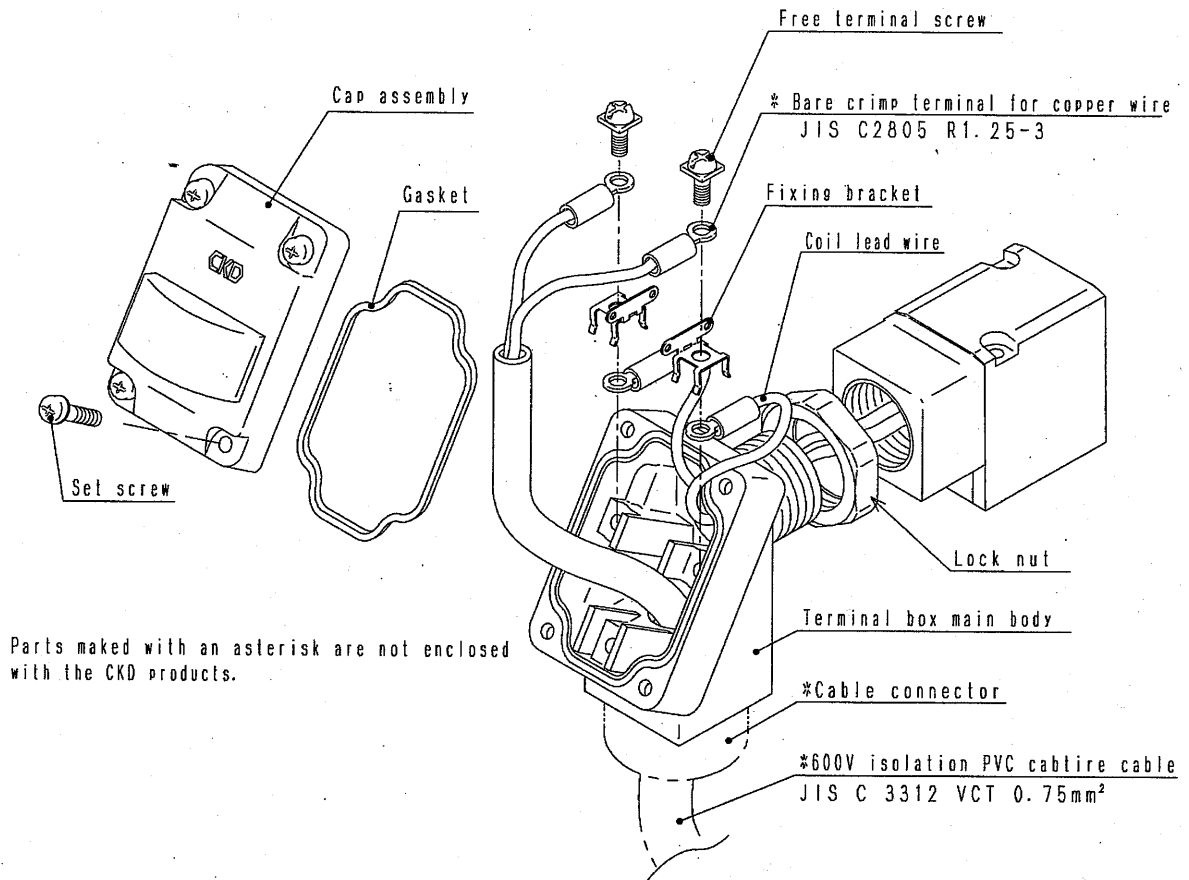

Fig. 12
- (3) Use a breaker such as a fuse or ground-fault circuit breaker on the control circuit side to protect the electric equipment.
- (4) For the wiring, use electrical wires with a nominal cross-sectional area of 0.5mm^2 or larger.
- (5) The AC and DC coils do not have polarity. (Coil option symbol "7A" type has a built-in rectifier (half wave), and drives the DC coils.) The lead wire and terminal box connections are shown in Fig. 10. to Fig. 12. Connect according to each type.